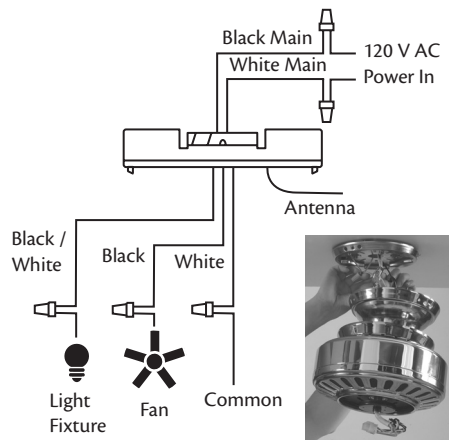

Figure 13 - Wiring the fan
- Connect the wires as shown in Figure 13. To connect the wires, twist tie bare metal leads together. Place a wire nut over the intertwined length of wire and twist clockwise until tight.